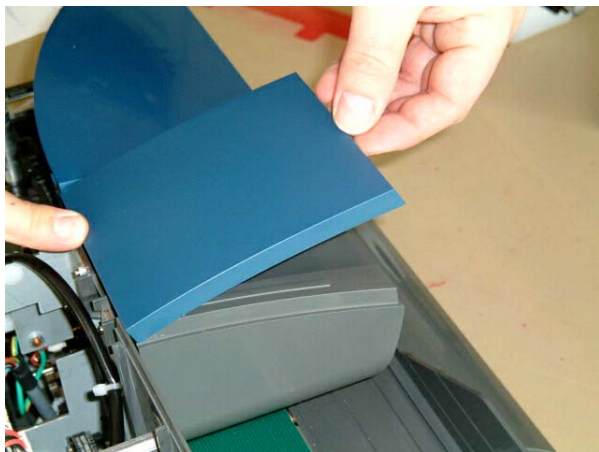
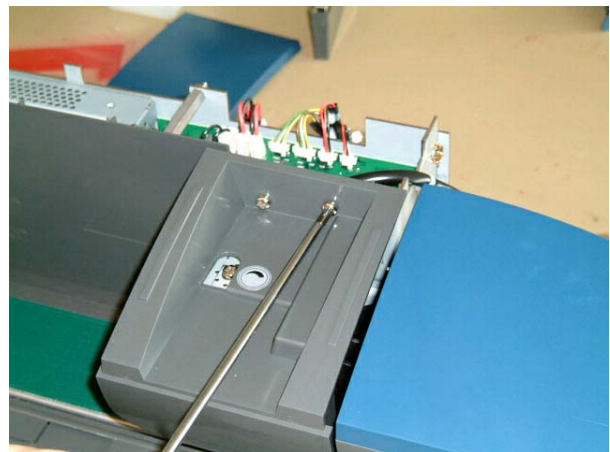

Fig.8
Fig.9
- Unsnap the blue cover over the separating assembly (Fig.8), then remove the 2 Philips screws (Fig.9)